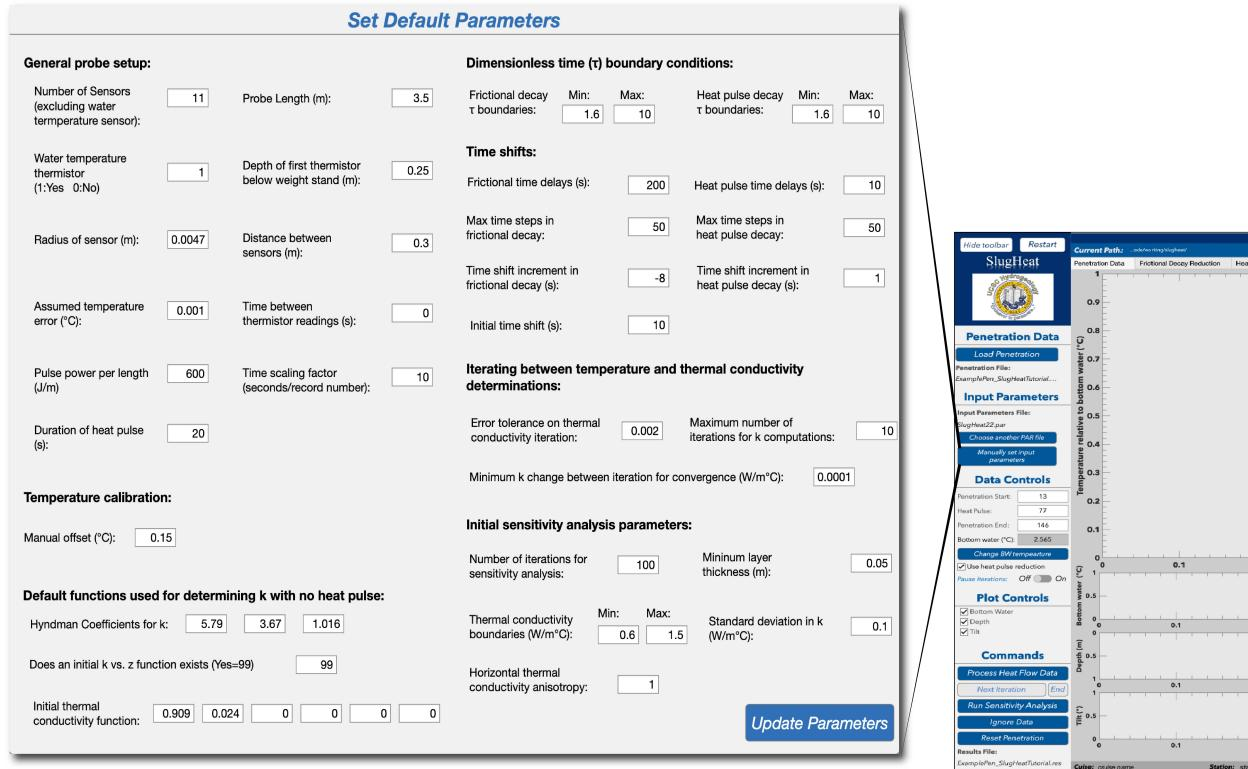

Figure 7: SlugHeat auxiliary application to inspect and modify input parameters
- To check *all* default input processing parameters and calibration parameters before processing data, either (1) check *SlugHeat.par* in a separate text editor or (2) press ‘*Manually set input parameters*’ button on the *SlugHeat* command window which will launch an auxiliary application within *SlugHeat* to view and adjust all input parameters. See Figure 7.
- (a) Press ‘*Manually set input parameters*’ button on top of command window to left of application, launching auxiliary application where individual input parameters can be adjusted manually. Press ‘*Update Parameters*’ button to update modified values. See Figure 7.